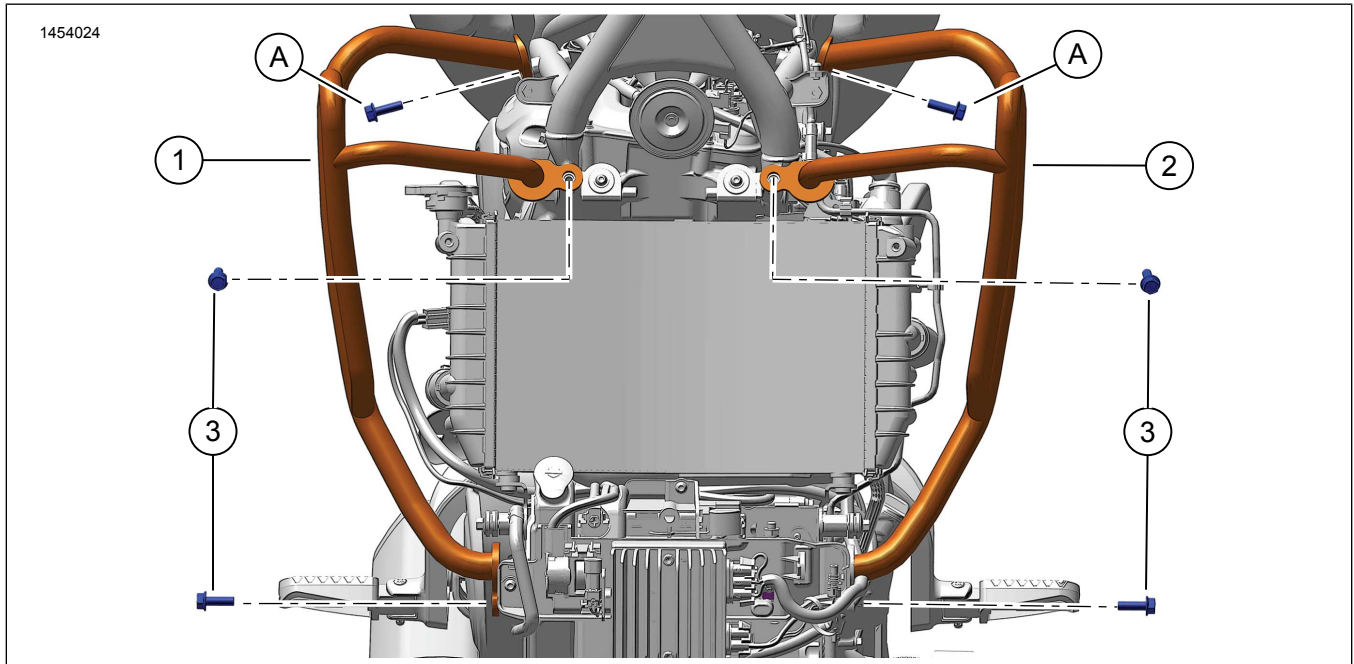

Figure 1. Kit Contents: Tactical Trekker Brush Guard
1. See Figure 1. Install engine guards (1, 2).
2. Install lower screw (3). Hand tighten.
3. Install mid screw (3). Hand tighten.
4. Install headlamp bar screw (A). Hand tighten.